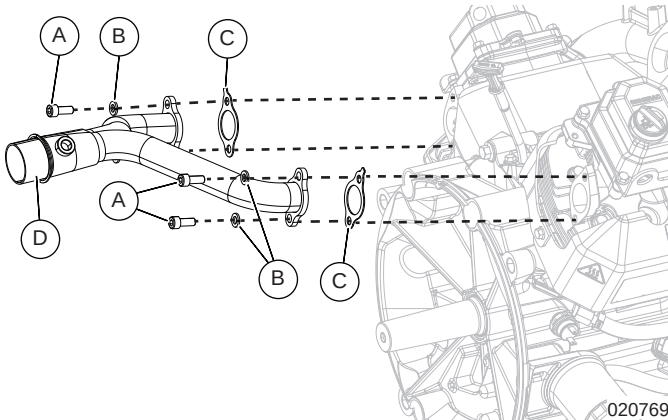

Figure 6-13. Remove Exhaust Manifold
1. See Figure 6-13. Remove four exhaust manifold bolts (A) and washers (B).